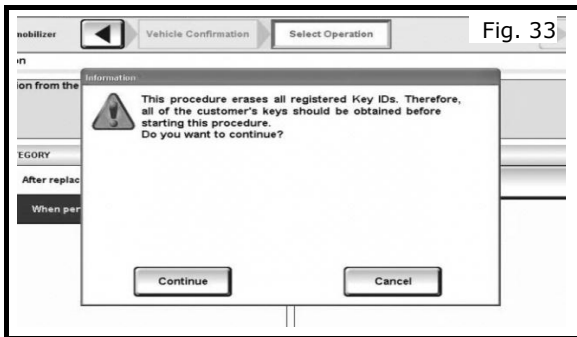

Fig. 33
- a) Follow the CONSULT III plus prompts as shown in Fig. 33.